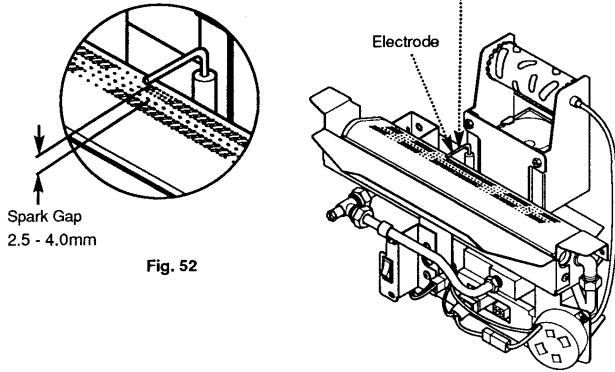

Fig. 52
3. Fit the new electrode and re-assemble in reverse order. Check that the spark gap is between 2.5mm and 4.0mm (Fig. 52).